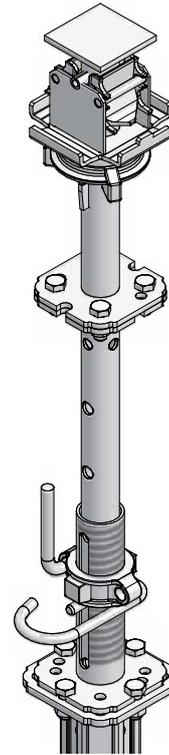

Fig. 10.2 With MD drop head
- 68 to 120 cm with MD drop head (Fig. 10.2)